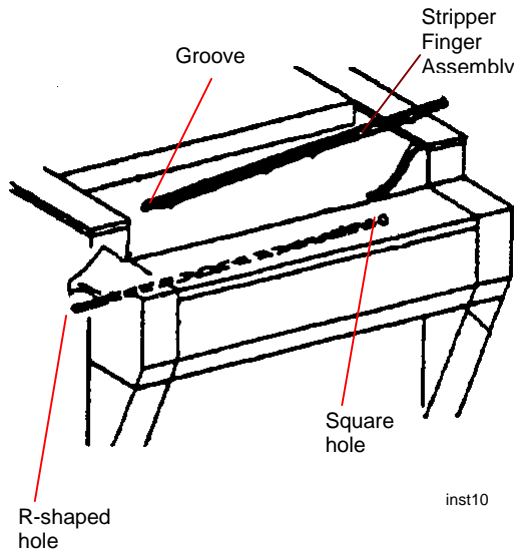

Figure 9. Reinstalling the Stripper Fingers
10. (Figure 9): Reinstall the Stripper Finger Assembly.